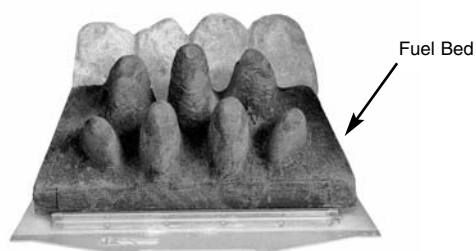

Fig. 23
2. Place the main fuel bed on to the middle section of the metal burner tray. It is important that the front edge of the fuel bed is located behind the burner strip (Fig. 23).